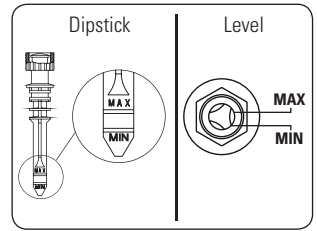

FIGURE 8.6
1. Check oil level (Figure 8.6) (For oiled compressors).
- D. Check the oil level and add oil if necessary before switching on the compressor. The oil level must be between the maximum and minimum marks of the oil gauge dipstick (For oiled compressors) (Figure 8.6).